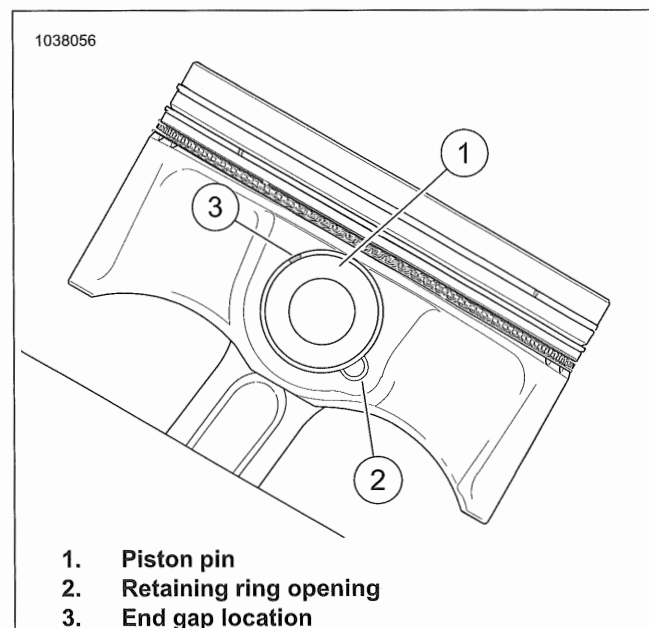

Figure 4-42. Pre-Installed Retaining Ring
- g. See Figure 4-42. Verify that retaining ring end gap (3) is opposite from opening (2).
- a. See Figure 4-42. Verify that retaining ring end gap (3) is opposite from opening (2).